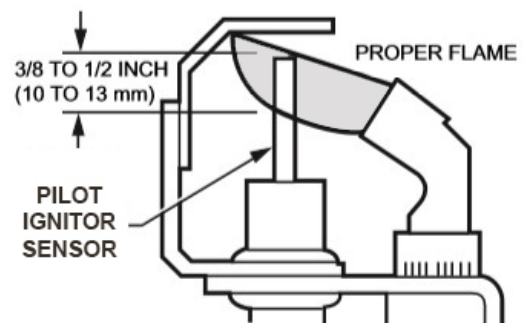

Figure 32. Flame Example
- Observe the main flame pattern on all burners. There should be minimal pulsing, unstable or lifting flame patterns. See Figure 32 on page 38. For any abnormal flame check gas pressures and orifice alignment. If the gas pressures and orifice